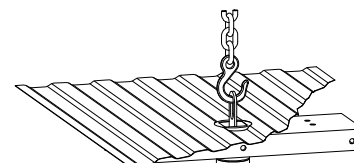

Figure A4
5. **Prepare a lifting device (optional).** The purpose of the device is to safely hold the hitch in position during part of the installation. See figure A4 for an example. A simple mechanical lifting device is available for purchase from B&W.